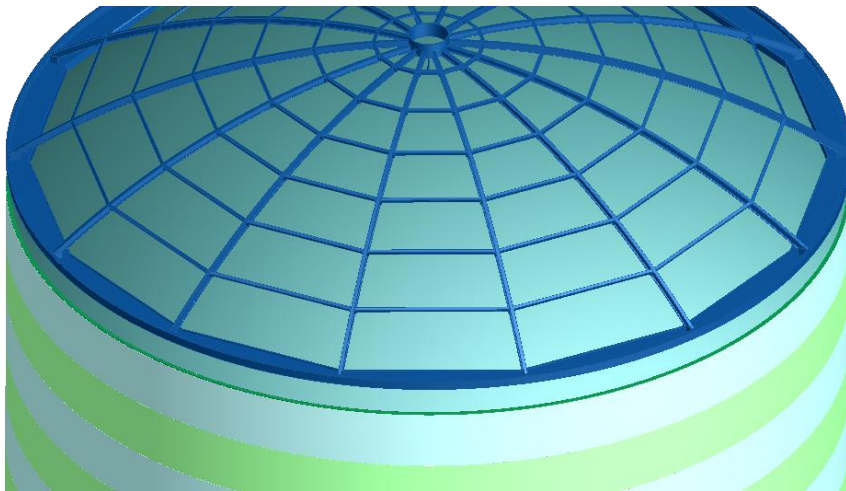

Fig. 3.193 Imported roof frame model
- by the attached frame (it is necessary to prepare the frame model in a third-party CAD system similarly to the “Custom equipment” component, Fig. 3.193).